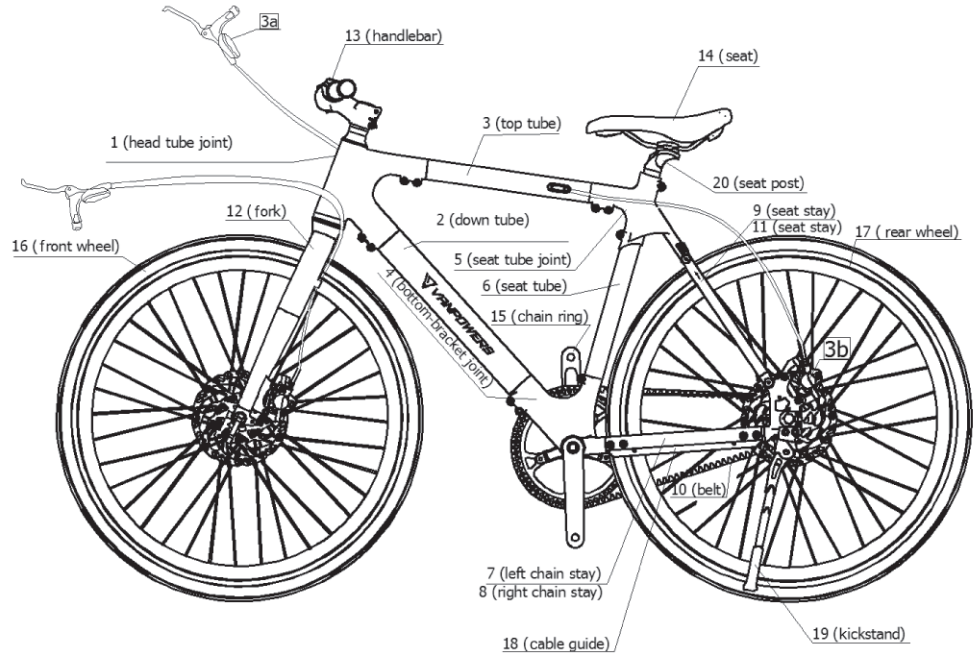

Figure 46.
1. Stand the bike up, as shown in Figure 46.